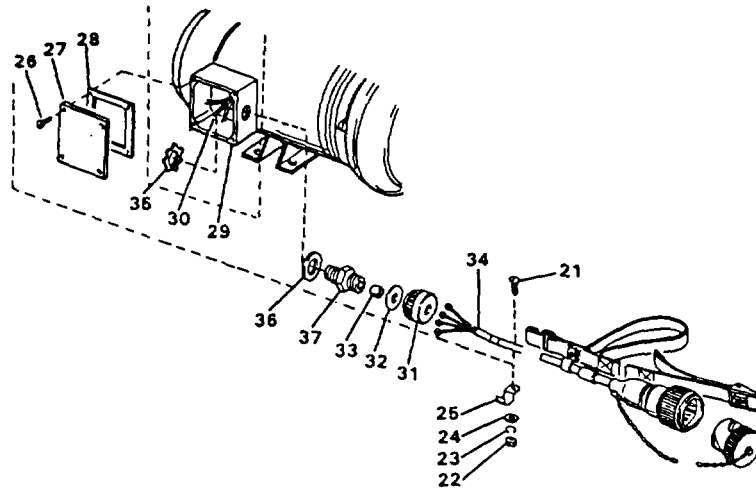

Figure 4-102. Distribution Pump and Motor Assembly (sheet 5 of 5)
- (1) Remove two dust caps (1), gaskets (2) and connectors (3).
- (2) Remove two elbows (4) and nipples (5) from tee (6).
- (3) On Model WTA-060, remove \_ connector (7) and plug (8) from nipple (9). On Model ROWPU-1, remove connector (7) and cap (8).
- (4) Remove nipple (9) from tee (6). (MODEL WTA060 ONLY)
- (5) On Model WTA-060, Remove dust cap (10), gasket (11) and connector (12) from pump(13). On Model ROWPU-1, remove plug (10) and connector (1) from pump (13).
- (6) Remove dust plug (14), gasket (15) and connector (16) from pump (13).
- (7) Raise and remove valve (17), nipple (18), elbow (19) and nipple (20) from pump (13).
- b. Disassembly of Motor Cable (Figure 4-102, sheet 2).
- (1) Remove two screws (21), nuts (22), lockwashers (23), washers (24) and clips (25).
- (2) Remove four screws (26), cover (27) and gasket (28) from conduit box (29).
- (3) Pull five sets of wires from conduit box (29). Tag and disconnect as shown in illustration (Figure 4-102, sheet 4).
- (4) Remove one screw (30, sheet 2) holding ground cable to conduit box (29).
- (5) Loosen nut (31) and slide nut (31), washer (32) and rubber bushing (33) back on cable (34).
- (6) Remove conduit nut (35) and pull cable (34) through conduit box (29).
- (7) Slide nut (31), washer (32) and bushing (33) from cable (34).
- c. Disassembly of Power Box (Figure 4-102, sheet 4).
- (1) Remove four screws (38), cover (39) and gaskets (40) from power box (57).
- (2) Unscrew and remove switch knob (41), lock ring (42) and data plate (43) from cover. Switch (44) is now free
- (3) Tag and disconnect three wires (45).
- (4) Remove conduit nut (46) and remove cable (51) and adapter (47) from power box (57).
- (5) Loosen nut (48) and slide nut (48), washer (49) and bushing (50) up the cable (51)